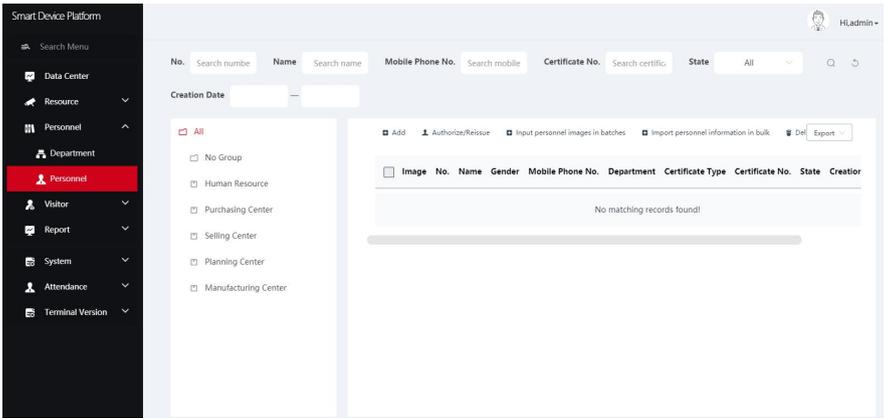

Figure 5-43
Step 1: In the smart device platform interface,click "Personnel→Personnel" to enter the personnel management interface, as shown in Figure 5-43 below.